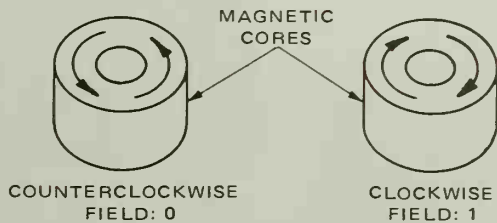
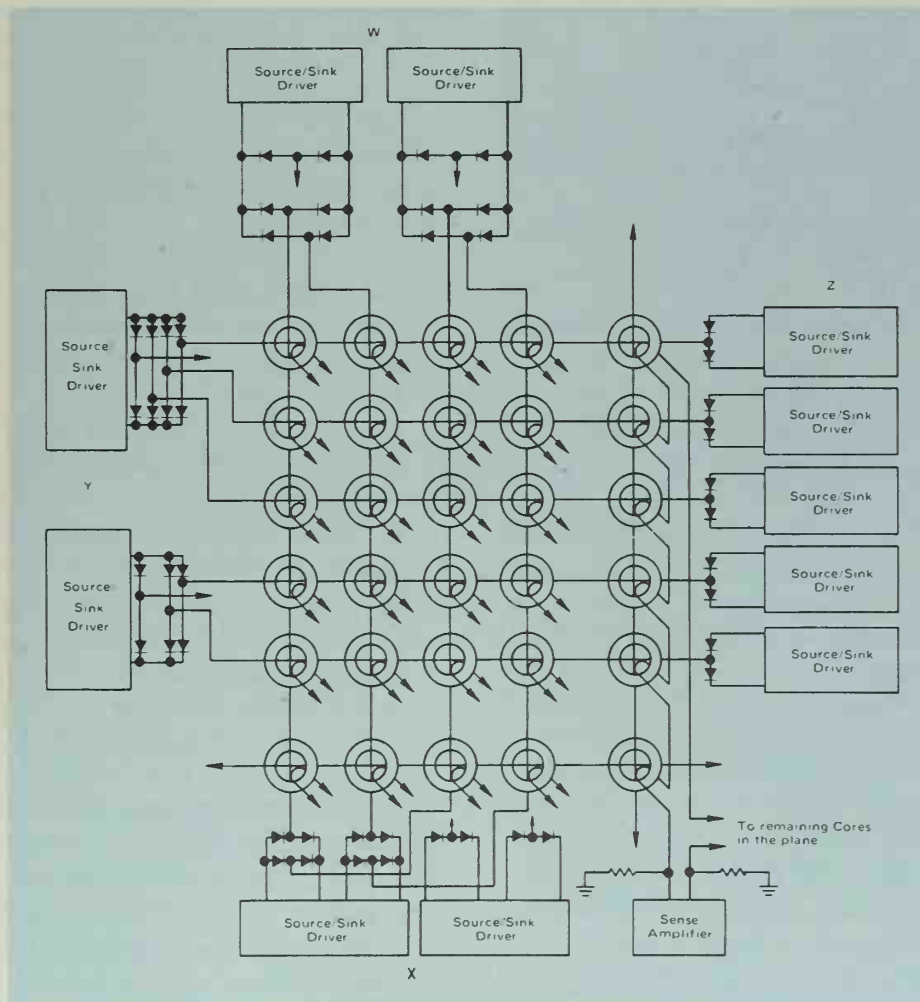

Fig. 20-7. Saturation of magnetic core determines binary information.
Fig. 20-8. Simplified diagram of a single plane (bit) of a core memory system. (Motorola)
Until the early 1970s, the main type of computer memory was the MAGNETIC CORE, Fig. 20-7. If the magnetic core is magnetized (or saturated) in one direction, this represents one binary digit (0). Likewise, if the core is saturated in the opposite direction, the opposite binary digit (1) is represented. A single plane of magnetic cores of a core memory system is shown in Fig. 20-8.